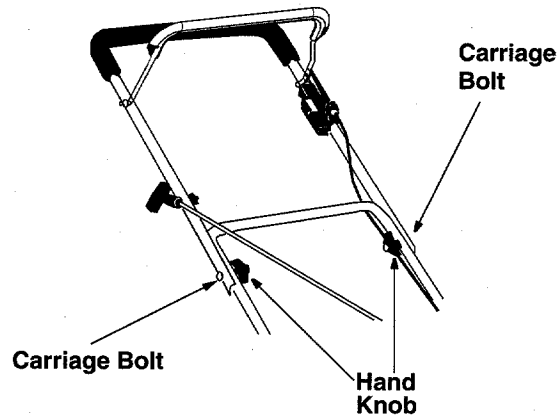

Figure 3
- Pull up and back on the upper handle to raise the handle into the operating position. Make certain the lower handle is seated securely into the handle mounting brackets. Tighten the hand knobs on each side of the handle (carriage bolts must be seated properly on the handle). See Figure 3.